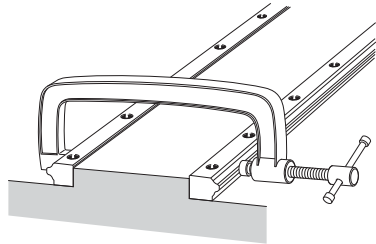

Fig.18
- (2) Use a small vice to press the two LM rails to the base so that they closely contact the reference surface, then tighten the mounting bolts to the recommended torque (see **A1-332**). (Fig.18)
- (3) Mount the LM blocks on the table, then install them onto the LM rails. Be sure the mounting bolts for the LM blocks are temporarily fastened.
- (4) Tighten the clearance adjustment bolt alternately to adjust the clearance.